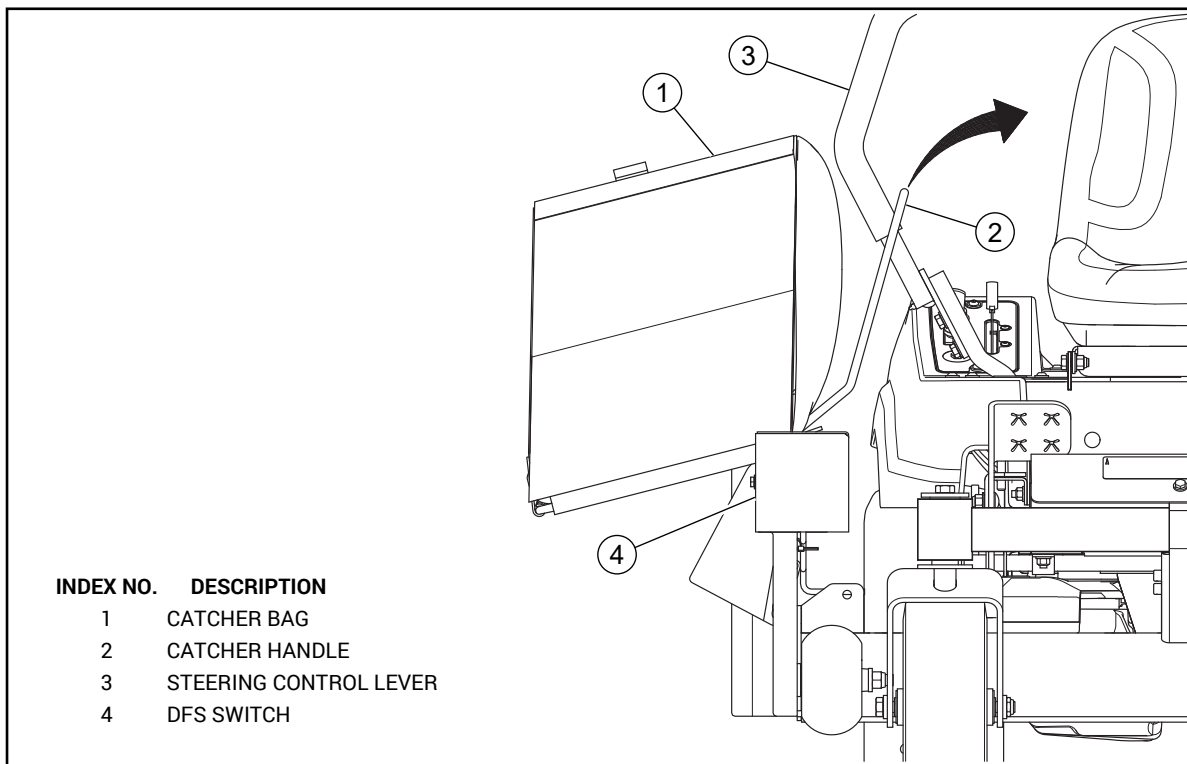

FIG. 12
17. Make sure the surrounding area is clear of bystanders. Engage the deck clutch switch. Raise the handle on the catcher bag toward the seat. Make sure the deck clutch disengages. Fig. 12
18. Lower the handle on the catcher bag to make sure the deck clutch engages. Fig. 12